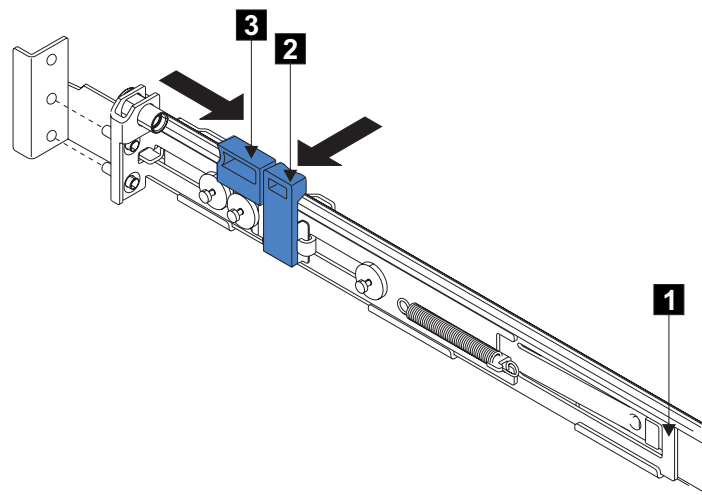

Figure 40. Opening the back latch-lock carrier assembly
5. Push the back rail bracket **1** (Figure 40) toward the front of the rail until it stops. The rail is now at its shortest adjustment.